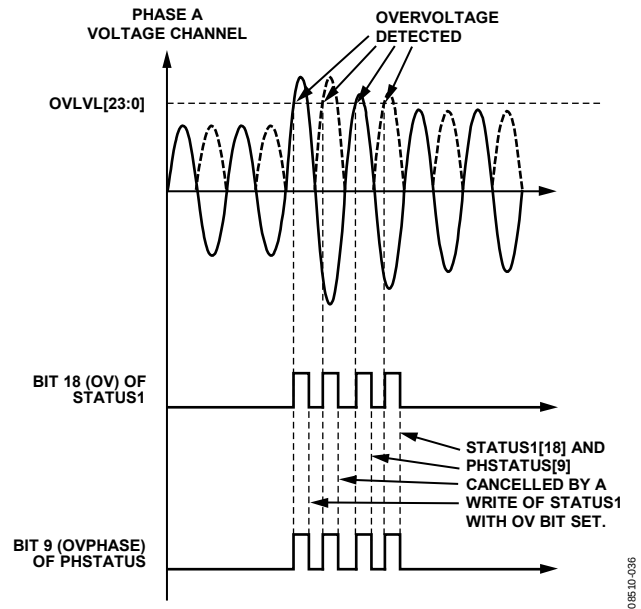

Figure 49. Overvoltage Detection
The Status Bit 18 (OV) in the STATUS1[31:0] register and all Bits [11:9] (OVPHASE[2:0]) in the PHSTATUS[15:0] register are cleared and the IRQ1 pin is set to high by writing to the STATUS1[31:0] register with the status bit set to 1. Figure 49 presents overvoltage detection in Phase A voltage.